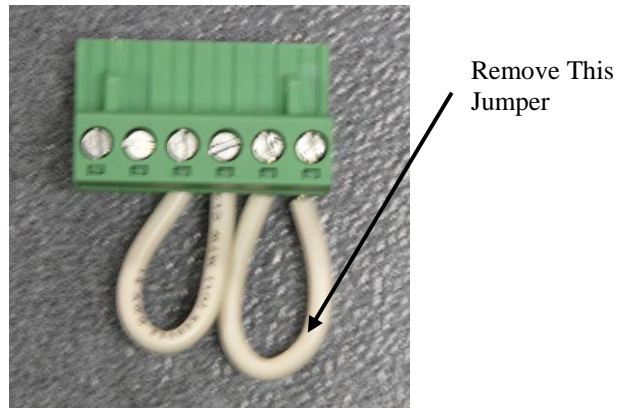

Figure 3: Phoenix Connector (J5)
2. Remove the jumper wire from pins 5 and 6 of the Phoenix Connector as shown in Figure 3.